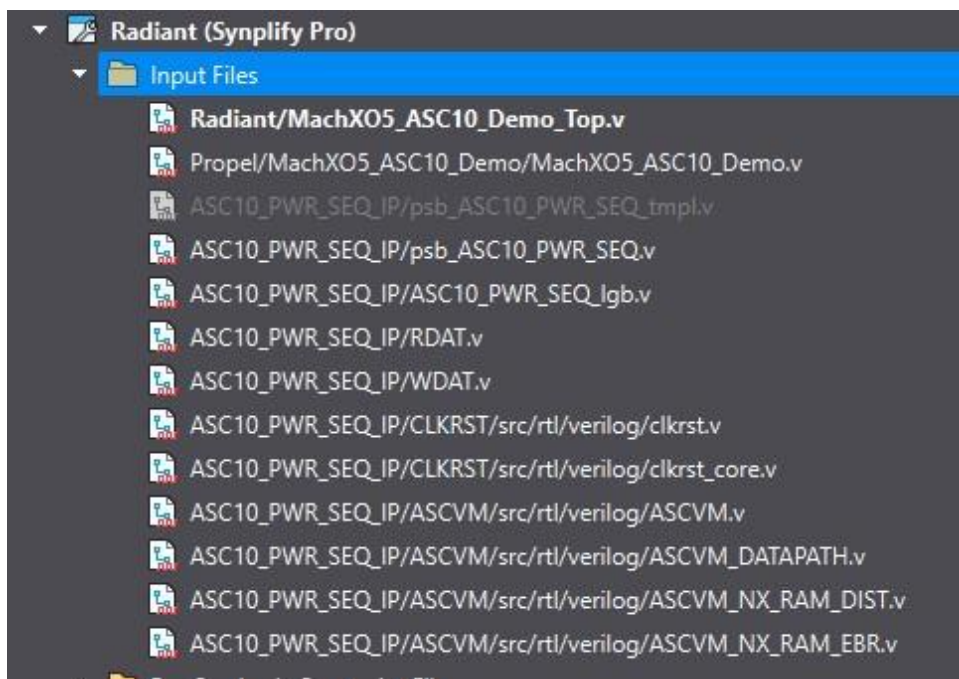

Figure 3.35. Radiant – Input File List
2. Browse to the folder where the Platform Manager 2 IP was exported to and add the files listed below and shown in Figure 3.35.